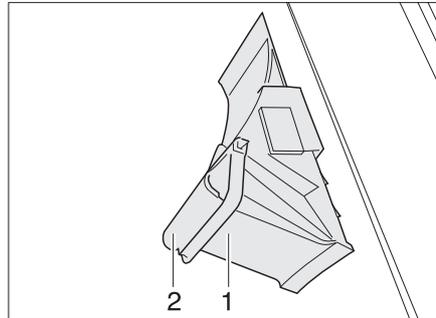

Fig. 15 Wheel chock
- Swivel the retaining clip (Fig. 15,2) down.
- Remove the wheel chock (Fig. 15,1) from the holder.